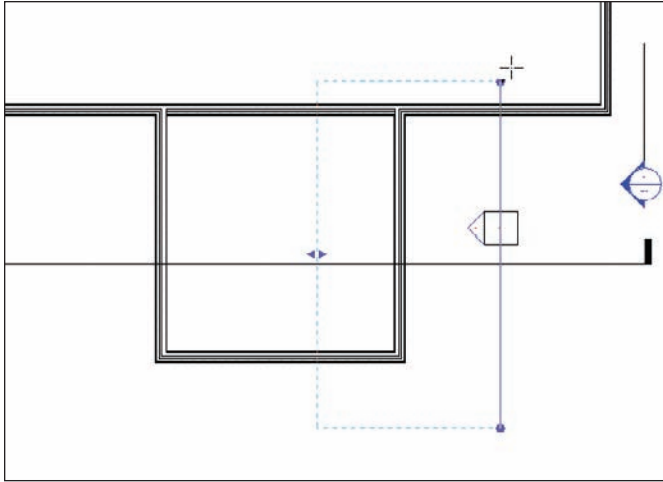

FIGURE 3.76 The elevation is placed. You can select the view arrow and move the extents of the elevation into the building.
3. Pick a place for the elevation, as shown in Figure 3.76, and press Esc to terminate the command.
4. When the elevation is placed, select the triangle. You will see the same extents window as you saw in the previous section (see Figure 3.76). This controls how deep into the model you are viewing, and it also shows you the length of the section. Because you placed this elevation up against a wall, Revit will stop the elevation at that wall.
5. Pick the top grip and stretch the elevation past the wall, as shown in Figure 3.76.